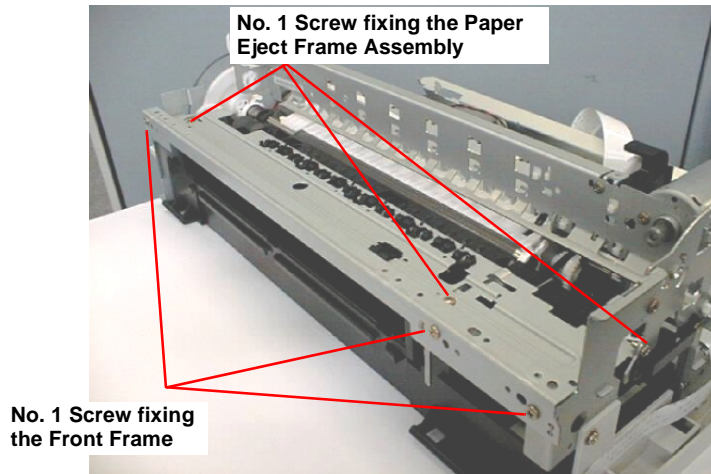

Figure 4-59. Removing the Front Frame & Paper Eject Frame
- 9) Remove three screws (No.1) securing the Front Frame to the Printer Mechanism and remove it. Refer to Figure 4-59.
- 10) Remove three screws (No.1) securing the Paper Eject Frame Assembly and remove it. Refer to Figure 4-59.